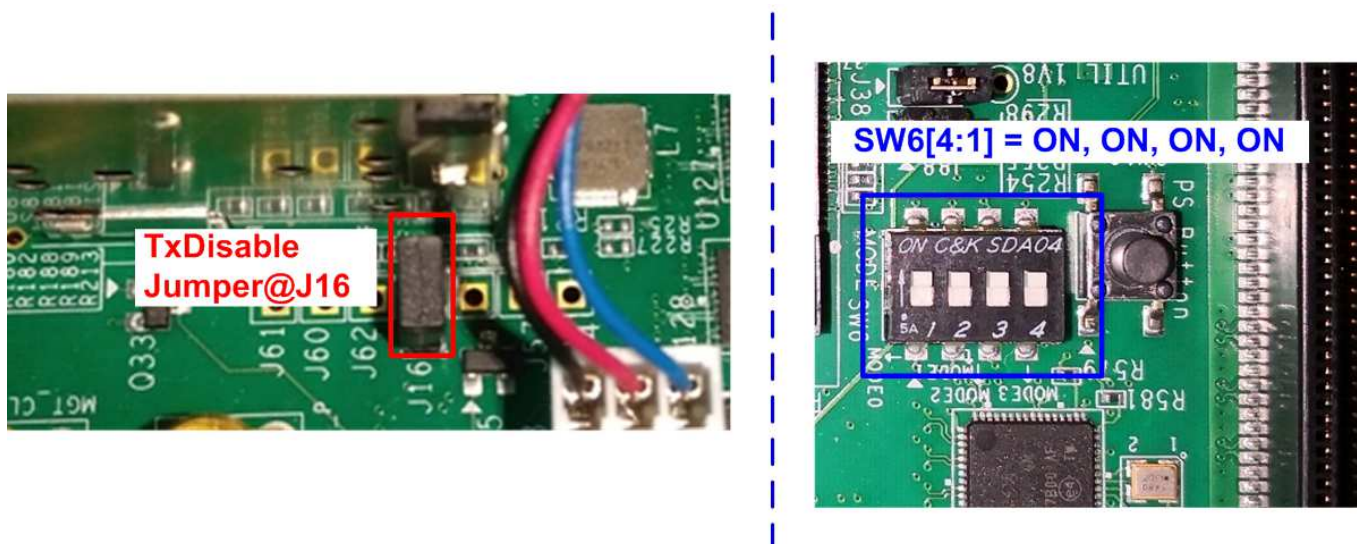

Figure 4-1 ZCU102 board setting
- a) Board setting on ZCU102 board is shown in Figure 4-1.